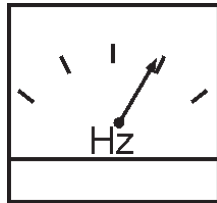

Figure 45. Frequency Meter (Hz)
9. The generator's frequency meter (Figure 45) should be displaying the 60 cycle output frequency in **HERTZ**.